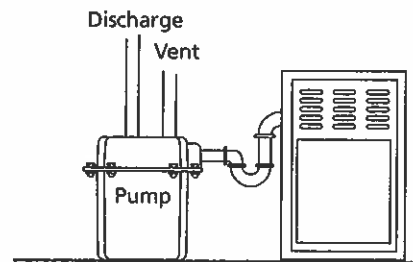

Figure 8 – Typical installation to remove air conditioner condensate or dehumidifier water
1. Install inlet pipe in opening as shown. Use RTV sealants or Plasto-Joint Stik* to seal threads. See Figures 8, 9, and 10, page 4 and 5, for typical installation arrangements.